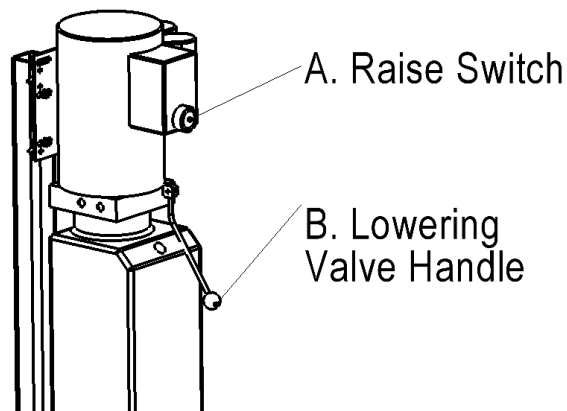

Fig. 9
- A. Push the Raise Switch (A) on the power unit (refer to Fig. 9).
- H. Actuate the Lowering Handle (B), as depicted in Fig. 9, to lower the lift onto the locking latches.
- D. Push the Lowering Valve Handle (B) to lower the lift, as shown in Fig. 9.